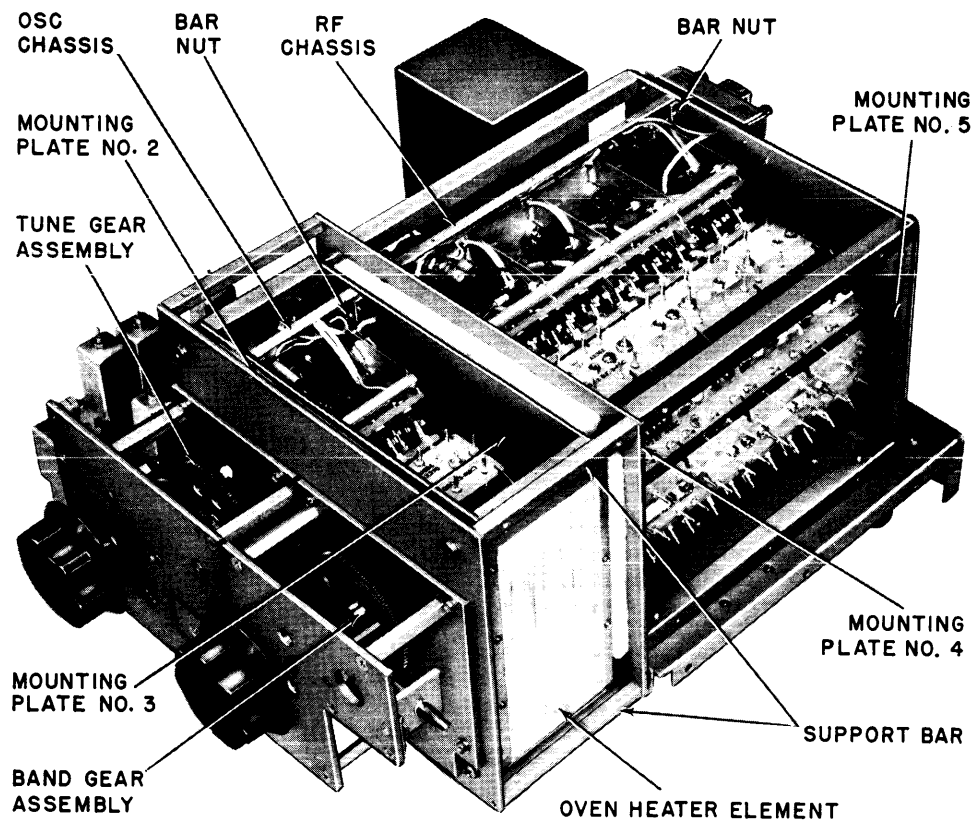

Figure 6-1. HFR-1 Assembly, Front Oblique View
d. GEARS. Examine the BAND and TUNE gear assemblies contained in the region between the front panel and oven (see figures 6-1 and 6-2). If any of the gears show signs of becoming dry, coat them heavily with a molybdenum disulphide compound such as Molykote-Type G made by the Alpha Corporation of Greenwich, Conn. Recommended time interval is every two years.